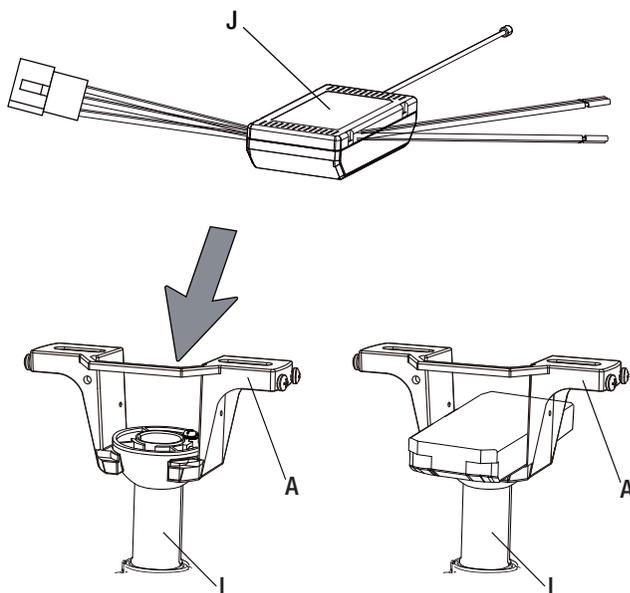

Figure 10
- Position the house supply wires to one side of the mounting bracket (A); position the fan wires to the opposite side.
- Insert the narrow end of the receiver (J) (Figure 10, flat side towards the ceiling) into the mounting bracket (A) until it rests on top of the ball/downrod assembly (I).